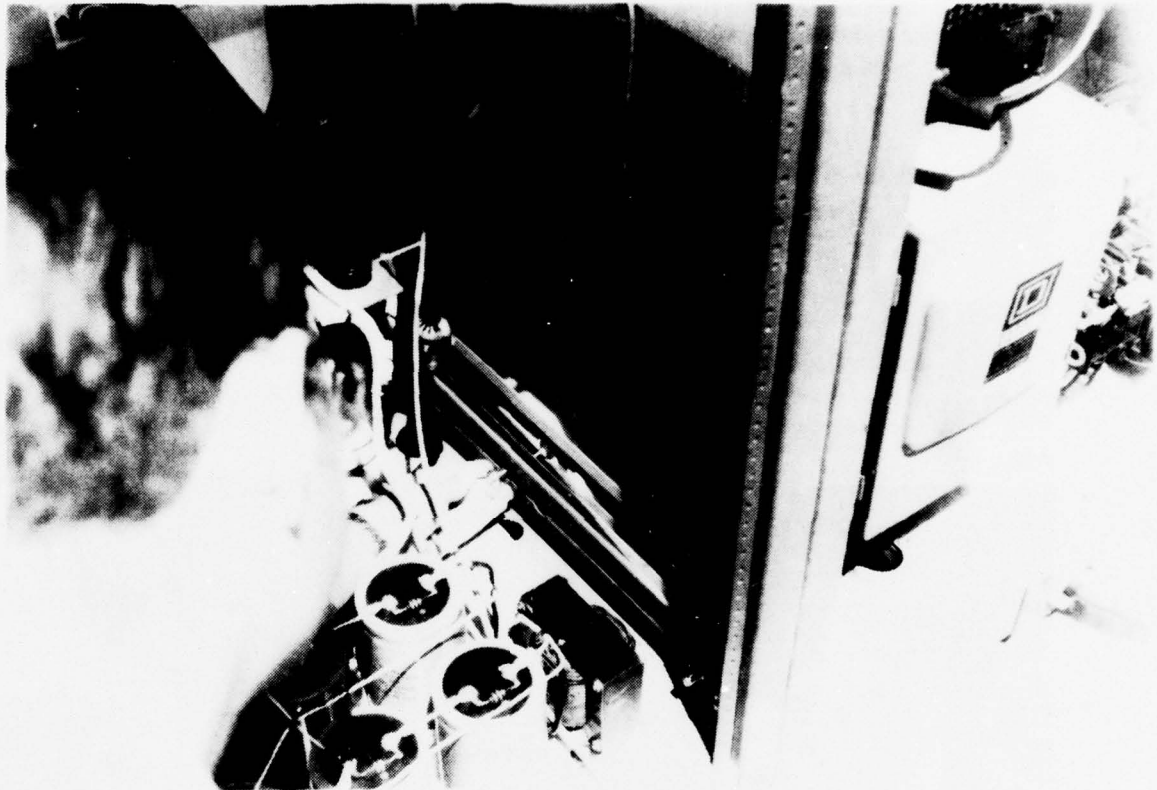

Figure 4. Rack Mating Connections
- D. See figure 4, roll the racks together. The amplifier rack is on the left